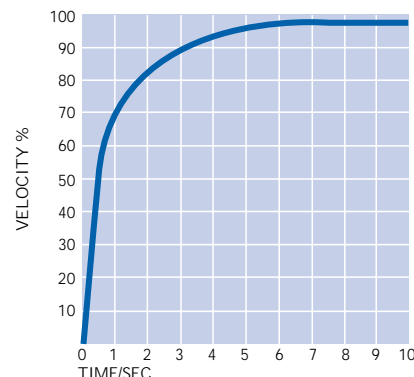

Figure 4—Sensor Flow Response.
Figure 4—Shows the response of a Kurz Fast Dual (FD) MetalClad™ sensor to a step change in velocity. Kurz manufactures the fastest industrial quality sensors available.